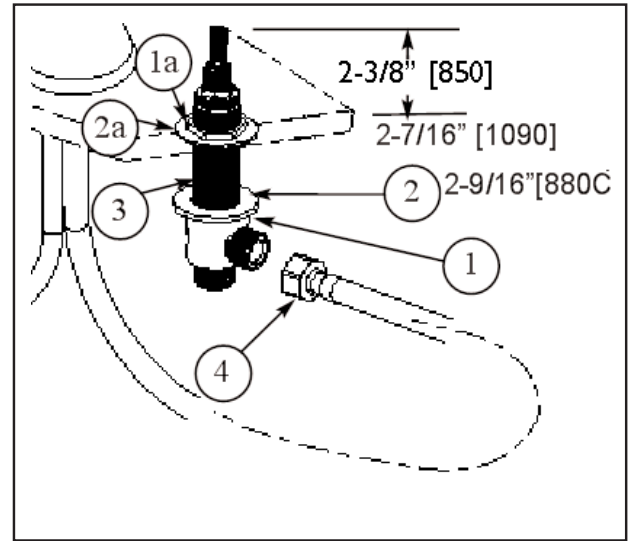

Figure 2
2. Place plastic flange NUT (1) and fiber WASHER (2) onto valve BODY (3). Insert valve BODY (3) through deck hole from underside of sink. Valve BODY (3) should extend: 2-3/8" for model 850; 2-7/16" for model 1090; 2-9/16" for model 880C, above mounting surface. If necessary adjust lower flange NUT (1). Place fiber WASHER (2a) and flange NUT (1a) onto upper position of valve BODY (3). Set hot and cold valve BODIES (3) so that their outlets are facing towards the center of the sink and tighten upper flange NUT (1a) by applying 20 ft.lbs. torque. See Figure 2.
3. Connect HOSE (4) to outlet of each valve BODY (3). Hand tighten and secure each HOSE (4) with a wrench 1/4 turn. See Figure 2.